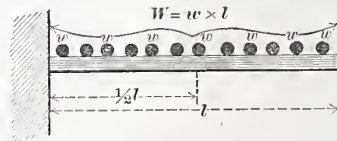

Fig. 13.—Beam Fixed at One End, Loaded Uniformly.
2. For a beam, Fig. 13, fixed at one end, and loaded uniformly for each unit of a length with a weight w , the total load W will be wl . The center of gravity of W will be distant from the support $\frac{l}{2}$, or in the middle